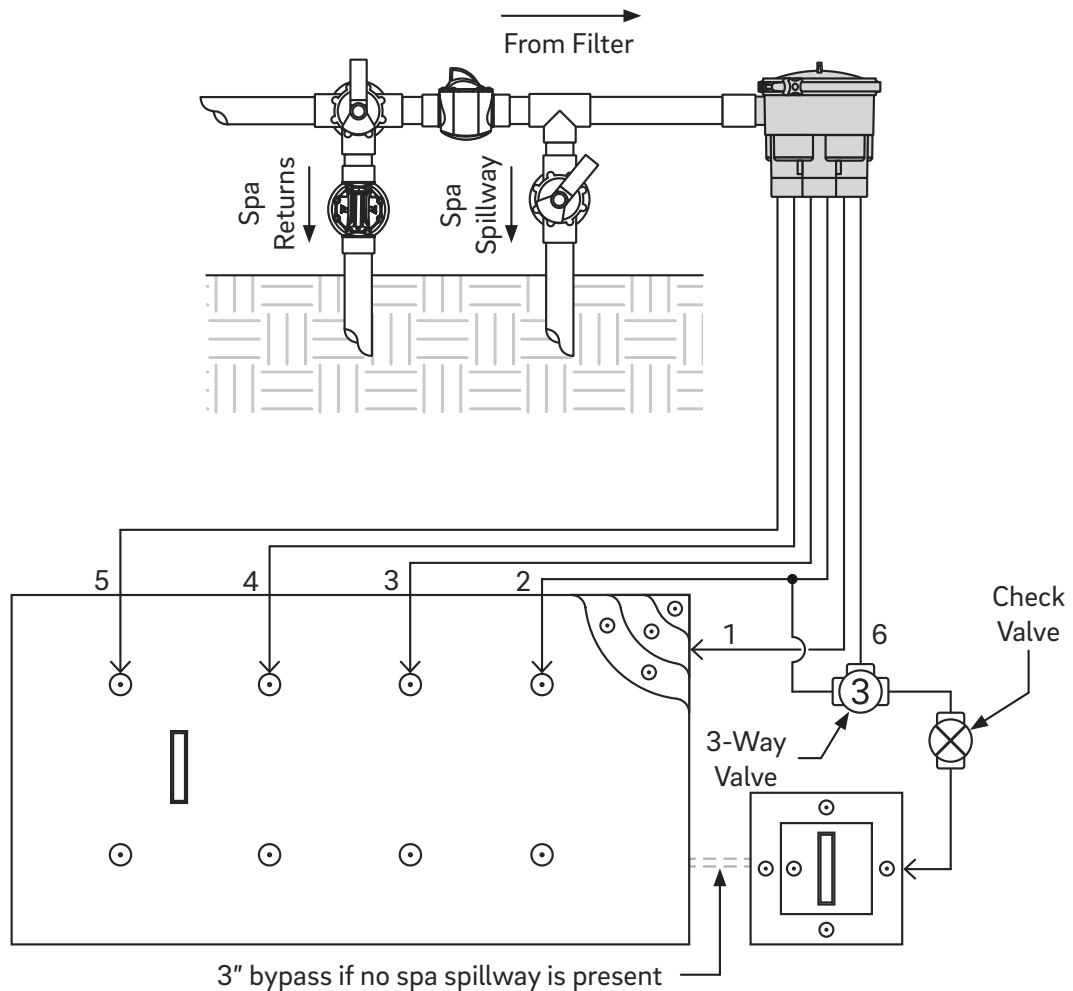
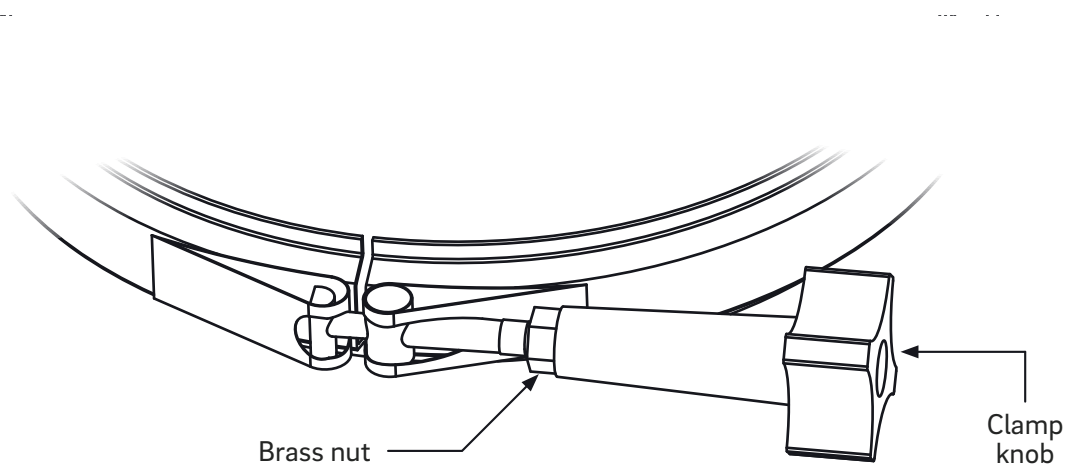

Figure 15
Figure 14
1. If the spa shares common equipment with the pool, refer to the diagram provided (Figure 14 & Figure 15) for the proper method of plumbing.
Once the pressure from the system pressure test has been released, remove the clamp knob and the brass pressure test lock nut from the band clamp and discard the nut (Figure 14).